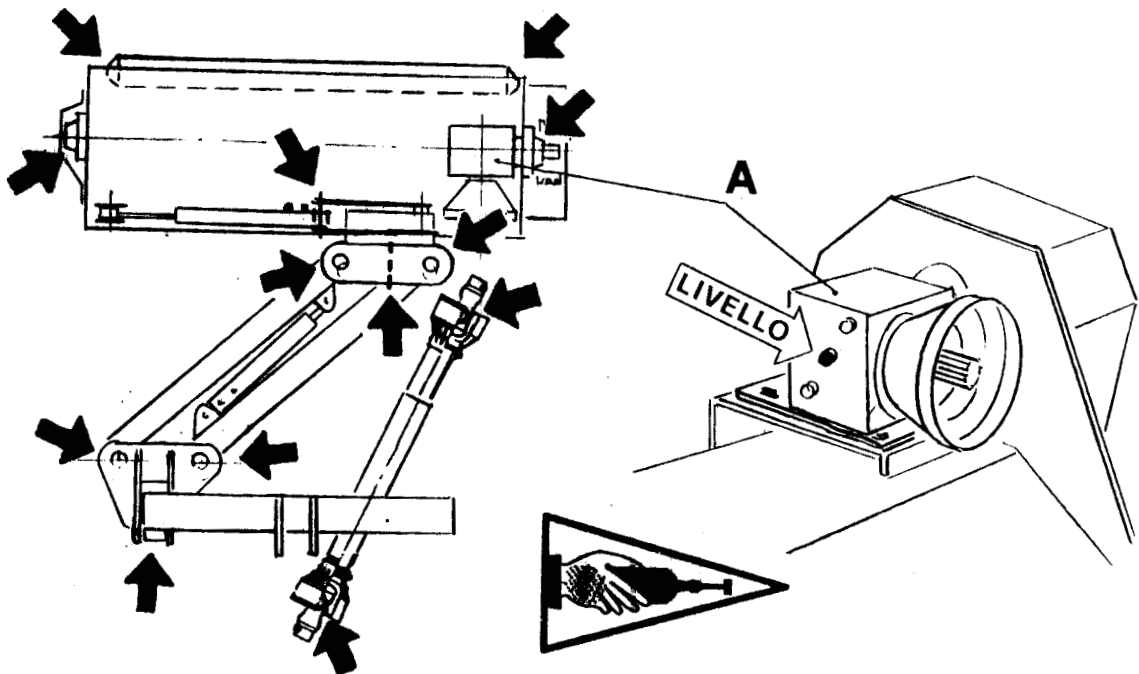

FIG. 27
- Grease the parts on the appropriate decal (FIG. 27).